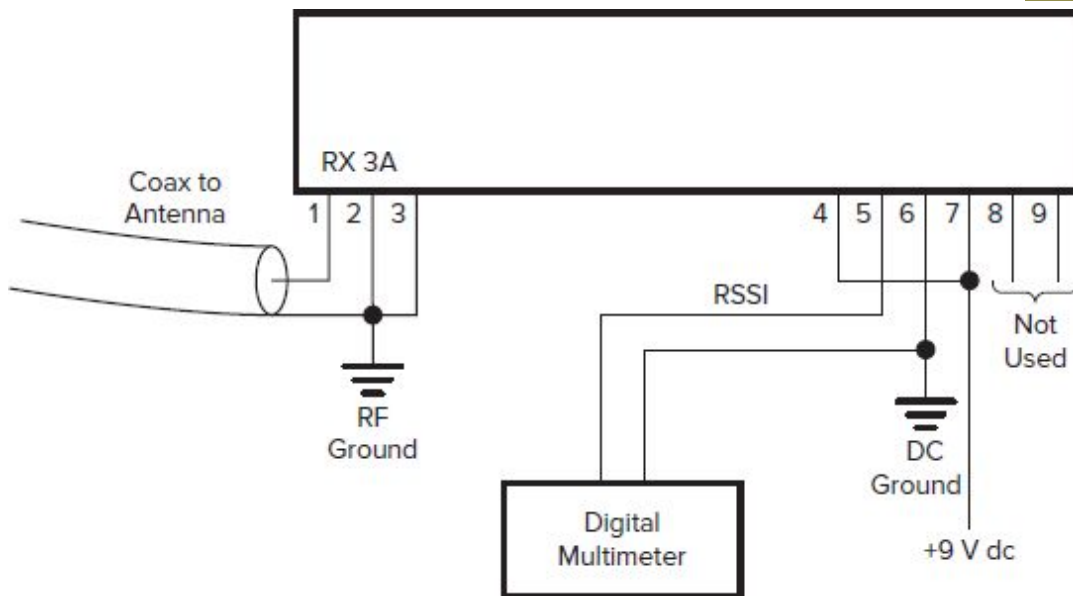

Fig. 16-5 Receiver wiring.
2. Construct the receiver unit by plugging the RX3A module into the breadboarding socket of the other assembly. Wire the circuit as shown in Fig. 16-5. Use a 9-V battery for the supply. A digital multimeter will be used to measure the RSSI output.